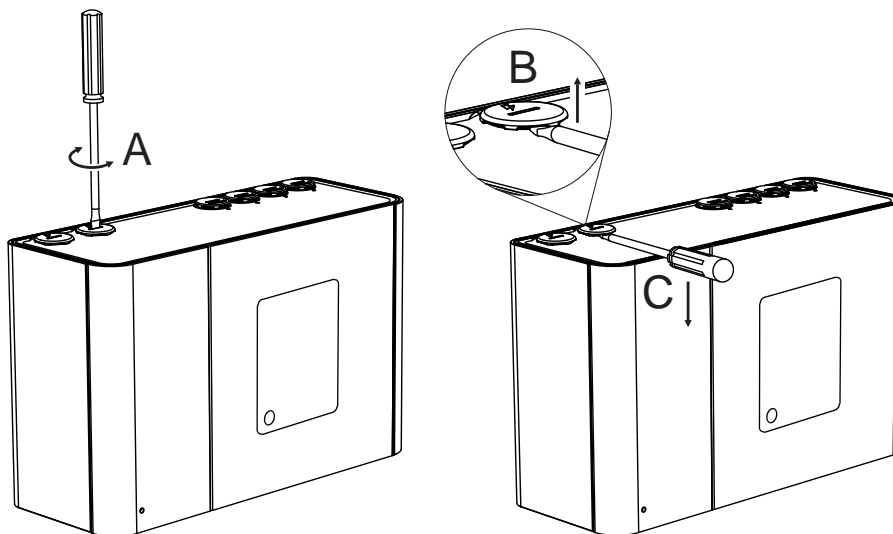

Figure 4-2: Remove Cable and Pipe Inlet Plugs
- Remove cable and pipe inlet plugs as required. Place a large screwdriver in the large slot and twist (A), or use a small screwdriver in the side slots (B) to lever the plug out (Figure 4-2). Use the edge of the detector (C) for a lever point to avoid marking the case.